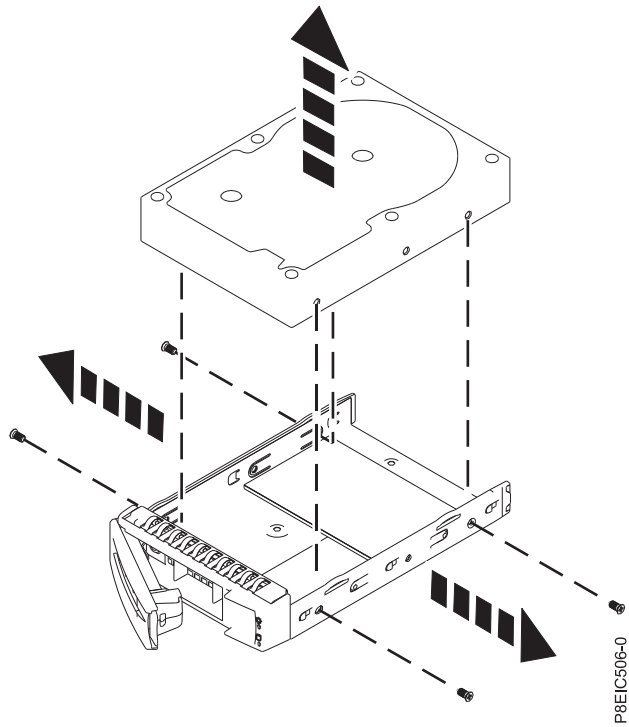

Figure 2. Removing the 3.5 inch drive from the tray
- For a 3.5 inch drive, unfasten the drive from the sides of the tray by removing four screws (2 on each side), as shown in Figure 2 on page 5.